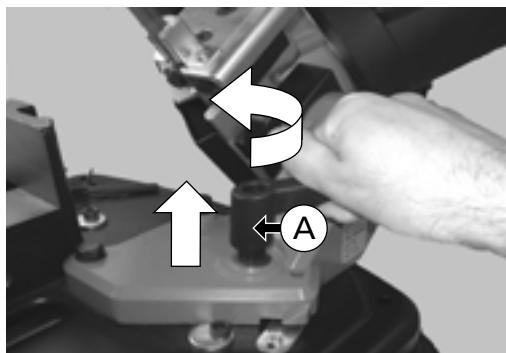

Fig. 19
Raise the handle (A) - (Fig. 19) and turn it in the direction shown to loosen it.
Elements of Fig. 19 - 20